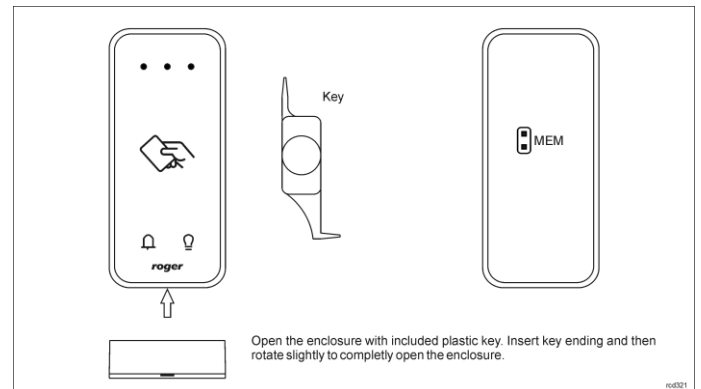

Fig. 2 Enclosure opening and location of service contact
2. Remove jumper from MEM contacts (fig. 2) if it is placed there.
2. Place jumper on MEM contacts (fig. 2).